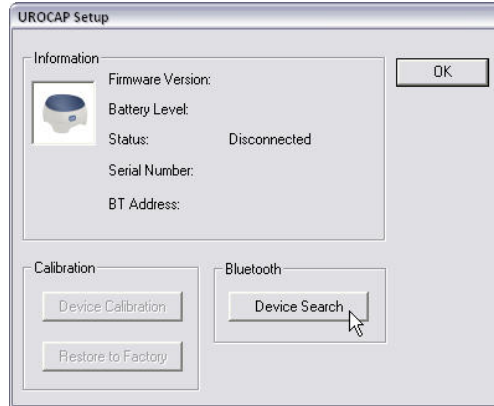

Figure 18: Launching Device Search
1. In the **Urocap™ Setup** window, click the **Device Search** button to start locating the Uroflowmeter that needs to be connected to the system (Figure 18). If the device is not found, click **Cancel** in the *Bluetooth Device Server* window and click **Device Search** again.